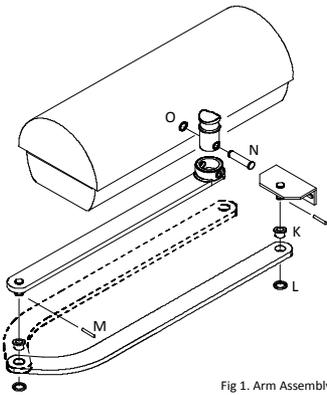

Fig 1. Arm Assembly
6. Assemble the articulated lever arm and door coupling as shown in fig. 1. Connect straight arm and door coupling to curved arm using plastic sleeve (K) and washer (L). Secure together with rolled pin (M). The dashed arm indicates the setup for the right motor (viewed from inside).
7. Slide the assembled arm onto the transmission shaft at the base of the motor, and fasten it using the long pin (N) and C-ring (O).